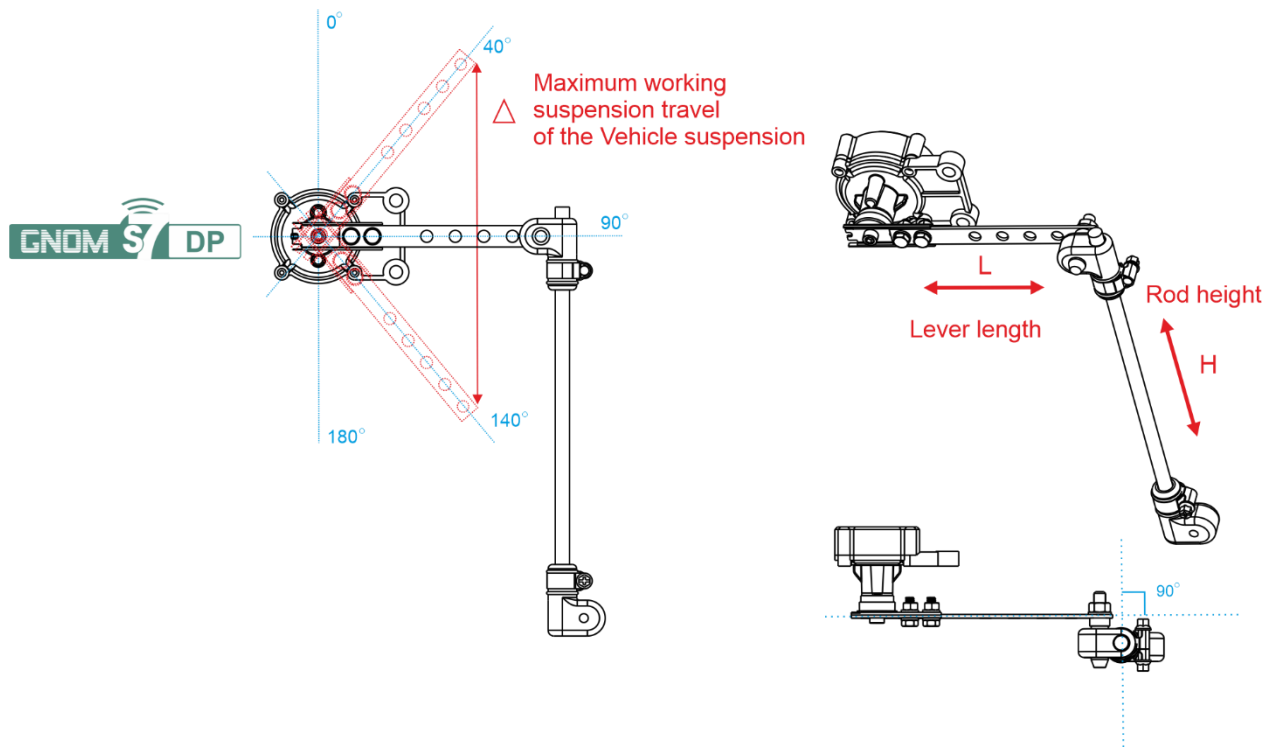

Figure 21 — Adjusting mounting kit rod and lever for sensor mounting
Initial adjustment of the rod height (H) and the lever length (L) (see figure 21) should be performed on a completely unloaded Vehicle.